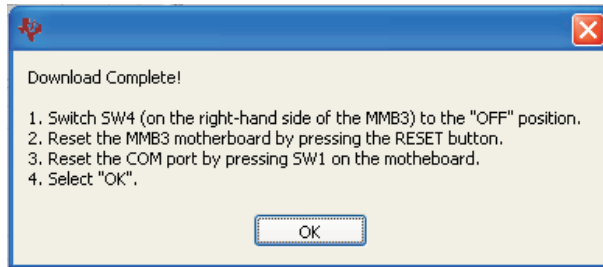

Figure 13. MMB3 Firmware Download Complete
7. When the firmware download completes, the message box shown in Figure 13 appears. Follow the on-screen instructions and the plug-in should now connect to the EVM.